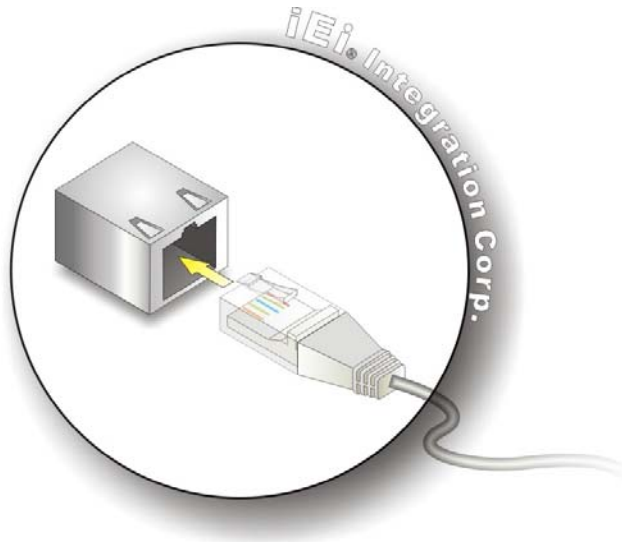

Figure 3-34: LAN Connection
Step 2: Align the connectors. Align the RJ-45 connector on the LAN cable with one of the RJ-45 connectors on the PPC-51xxA-H61. See **Figure 3-34**.